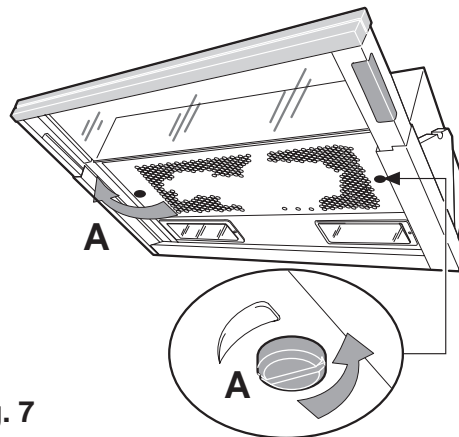

Fig. 7
- Open the grid (A - Fig. 7).
- Open the grid (A - fig. 7).
- Open the grid (Fig. 7).